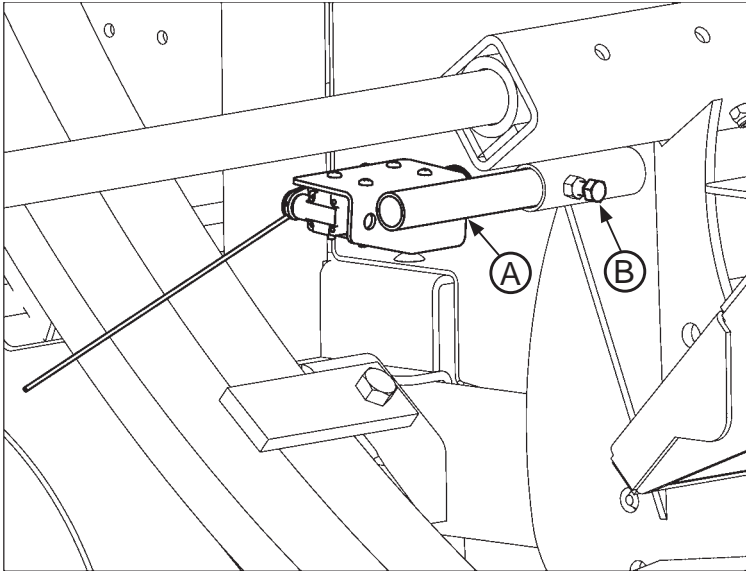

Fig.1
1. Install film sensor bracket (A) by sliding into frame tube and locking with provided bolt (B). See Fig.1.